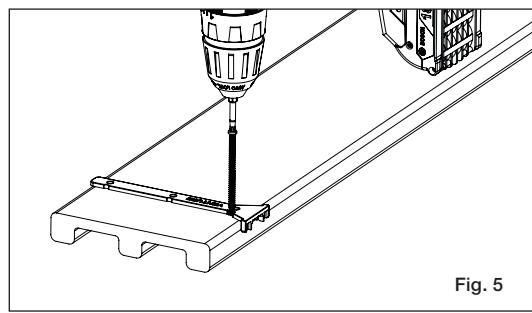

Fig. 5
A) For all deck board fastening, it is recommended that you use the locator tool to ensure accurate screw placements into the thickest lobed areas (fig. 5). You can either mark the location using the locator tool for predrilling or use the notches in the side of the tool to predrill the holes for the screws. For more information and instructions on how to use the locator tool please visit www.Deckorators/locatortool.com.